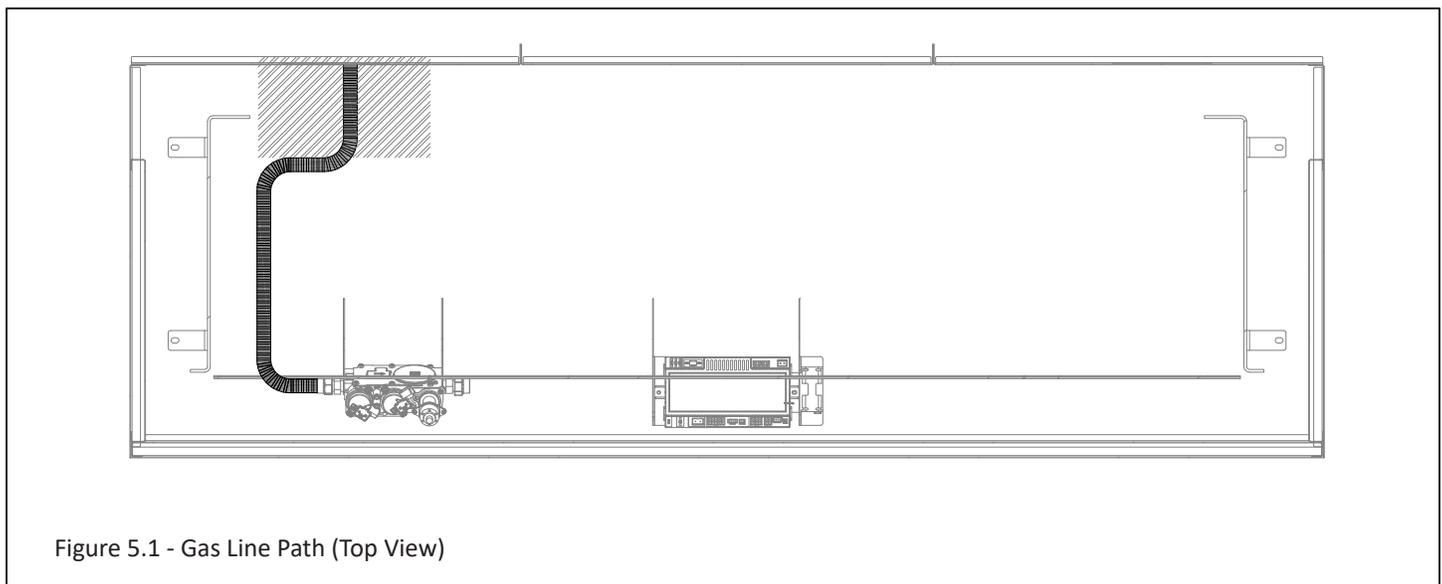

Figure 5.1 - Gas Line Path (Top View)
- Figure 5.1 shows where to route the flexible gas line from the gas valve to be connected to the gas supply line. The shaded area in the back left corner is where we recommend the gas shut off valve and connection to the gas supply line. This will ensure you have access to the shut off valve when removing the control board. Run gas line into fireplace through gas line hole provided. See Figure 2.1, Appliance Dimensions for gas line access..